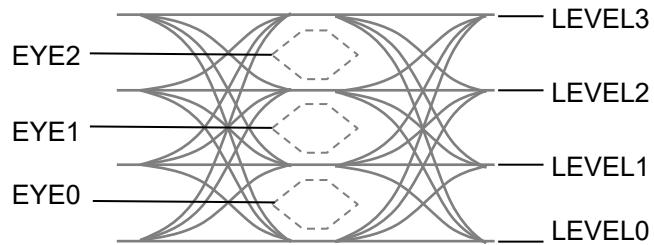

Figure 3.9.7-1 Positions of EYES and LEVELs
*: For the positions of LEVEL0 to LEVEL3, and EYE0 to EYE2, refer to Figure 3.9.7-1.